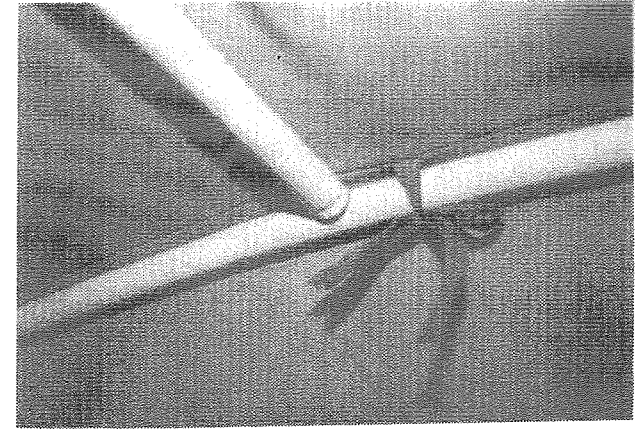

Figure 12
17. To complete set-up and support the tent enclosure, place one end of the support rod assembled in Step 12 into the hole located in the center of the uppermost canvas bow and the other end in the hole located in the center of the rear bow located directly above the entrance way. See Figure 12. Adjust support rod as necessary to make the tent enclosure taut. This is done by pressing the release button on the pole and extending the rod to the next hole location.